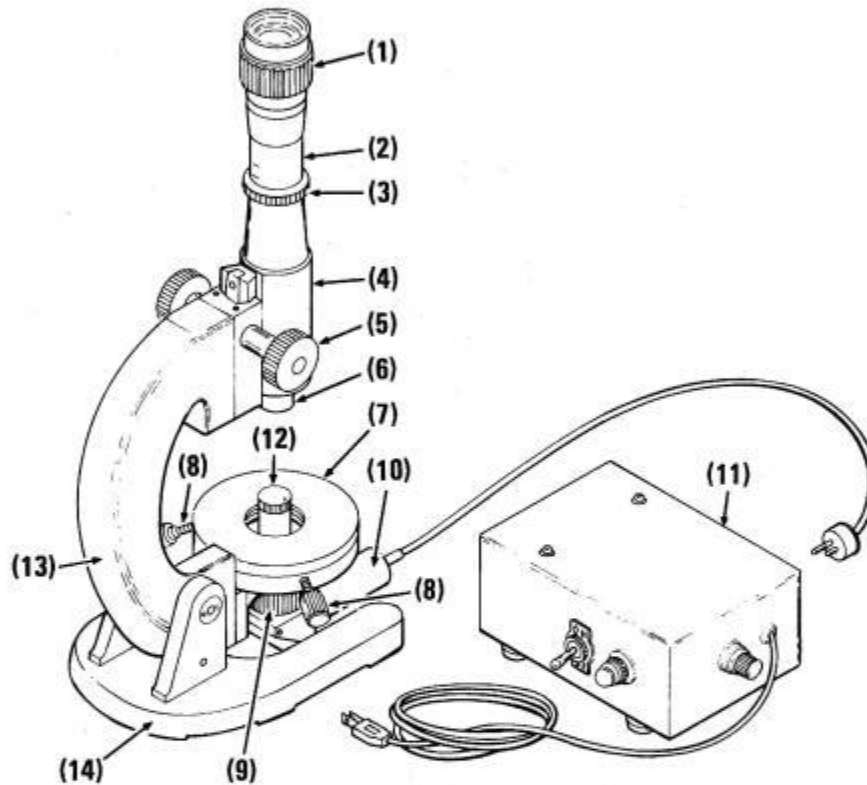

FIG. 6-1
The parts of the microscope are shown in Fig. 6-1 and are referred to in the text which follows. Referenced parts not shown in the illustrations will be found in the exploded drawings in Sec. 12.0.
- a) Loosen clamp ring (3), push microscope tube (2) to the bottom of its travel. Fig. 6-1.